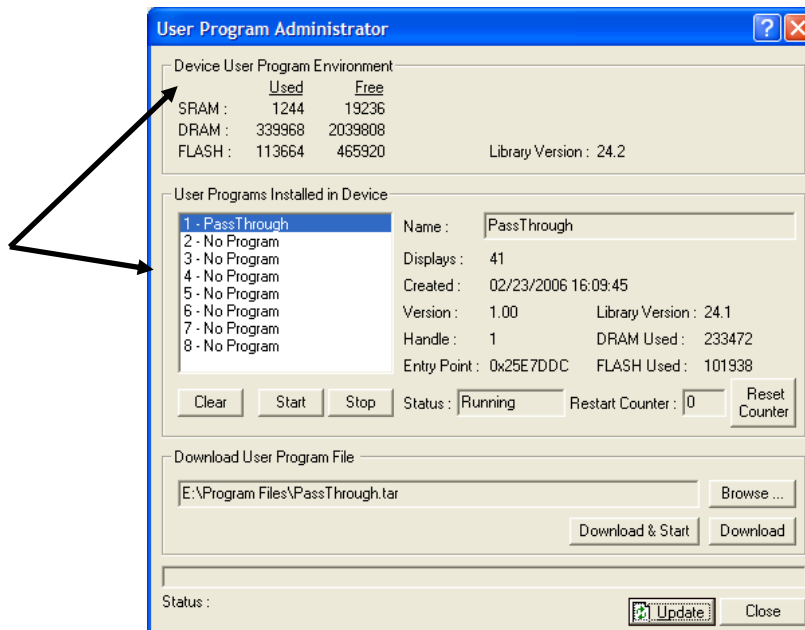

Figure 10. User Program Administrator
10. Click **OK**. The User Program Administrator screen displays (see Figure 10). Note that: